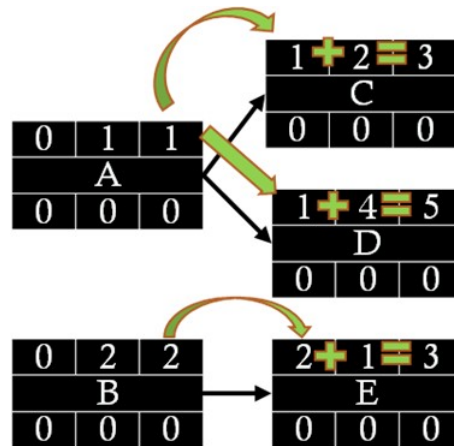

Figure 3.13: Passing predecessor ES times to successors as EF times
- Then, we carry the EF time to the nodes immediately succeeding the recently completed nodes (predecessors). C and D inherit 1 (EF) from A, and it becomes ES for both successor activities. For E, we pass 2 (EF for B) to E as the ES time. Then, we add new ES times to the duration of activities to find the EF for new successors (Figure 3.13).